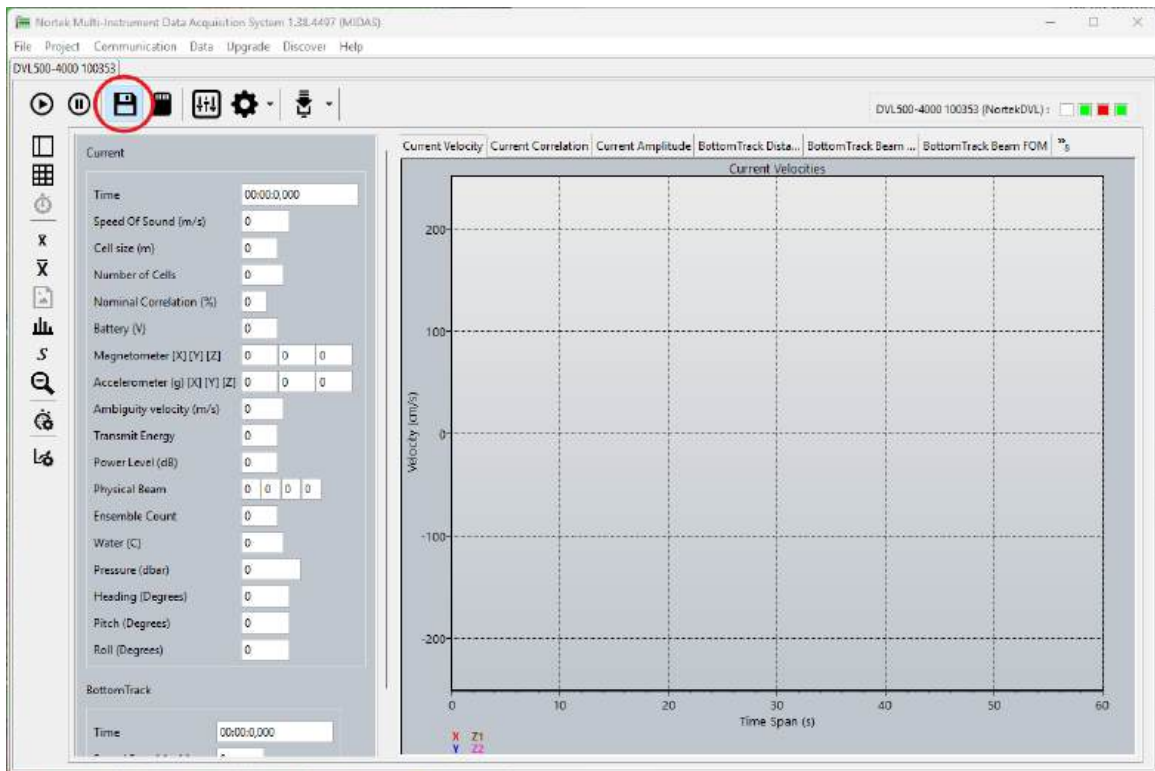

Figure 8: Midas Save to File
7. Configure recording for the DVL, specifying a file name in the "File Parameters" tab. Click OK to save configuration and file name. Select the floppy disk drive on the homepage (see figure 8) to enable saving to computer.